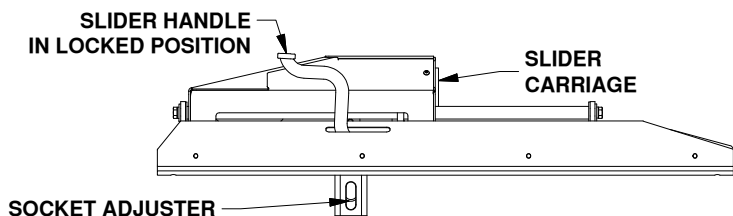

Figure A1: View of driver side of slider base.
**WARNING:** Whenever the slider base is being moved, the slider handle must be in the locked position, and the carriage must be unable to slide, see Figure A1. Failure to ensure that the handle is in the locked position can lead to property damage or serious injury.